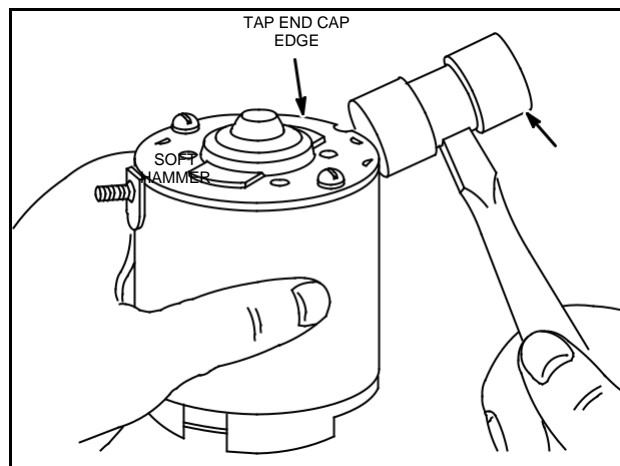

Fig. 661 – ALIGNING END CAP BEARING
11. Tap end cap edge lightly using a soft hammer as this will align the bearings, Fig. 661.